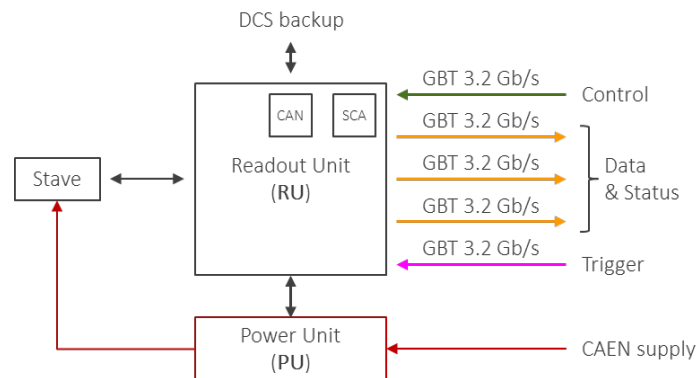

Figure 1 – RU main connections
The RUs as well manage the staves power. Power is actually provided by custom-made Power Units (PU), connected to the staff power and bias buses, fed by the CAEN power supplies, and controlled via I2C by the RU itself (Figure 1). Due to practical optimization the Power Units hardware is not matched 1:1 with the staves, but even in this case the RU interface is: i.e. a RU controls and monitor the power of an entire staff.
Each RU employs four GBT links to connect to the CRU: three upstream links and one downstream link. For baseline operations, only one of the three upstream link will be actually used. The RU receives the trigger via a dedicated (Single mode) GBT link directly from the ITS LTU: the CRU to RU downlink is therefore free from trigger duties, and its bandwidth will be used to quickly stream commands/data to RU in case of need. Figure 1 sketches the main RU connections and the Power Unit.